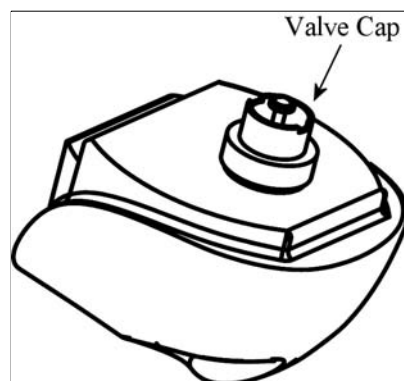

Figure 10
2. Remove the *Water Fill Tank*; turn it upside down, and unscrew the *Valve Cap* (see figure 10).